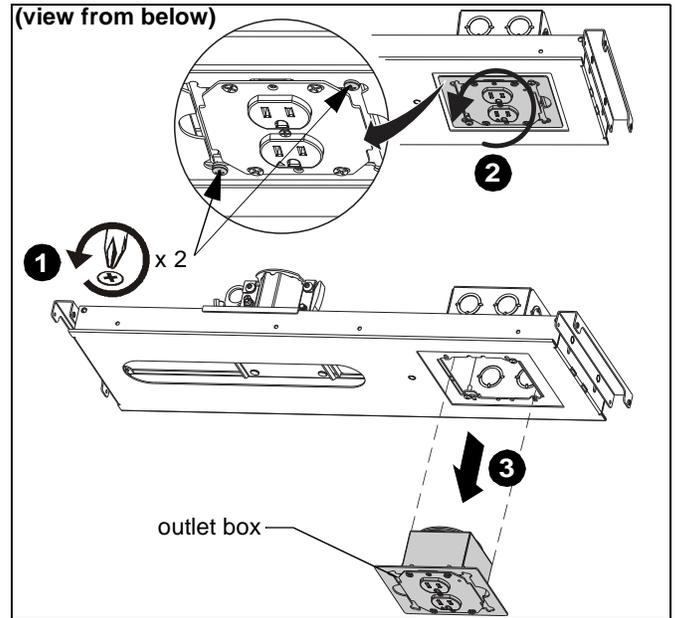

Figure 6
- Loosen, but do not remove, two Phillips head screws holding outlet box to outer housing. (See Figure 6)
- Rotate outlet box counter-clockwise until it is free to be removed from housing. (See Figure 6)
- Remove outlet box from housing. (See Figure 6)